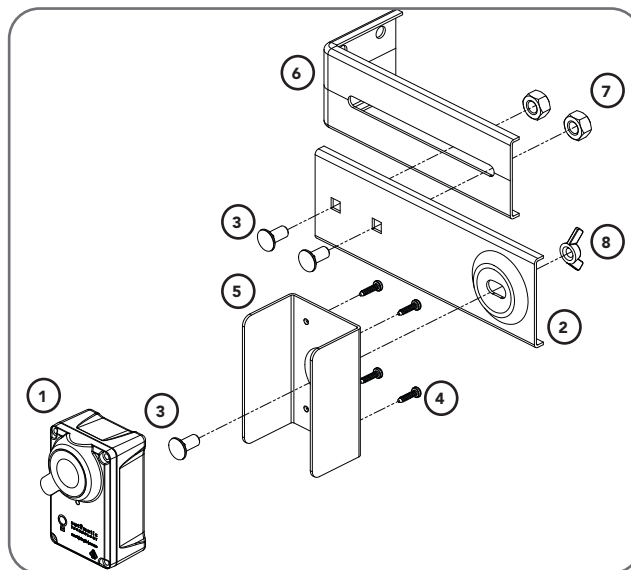
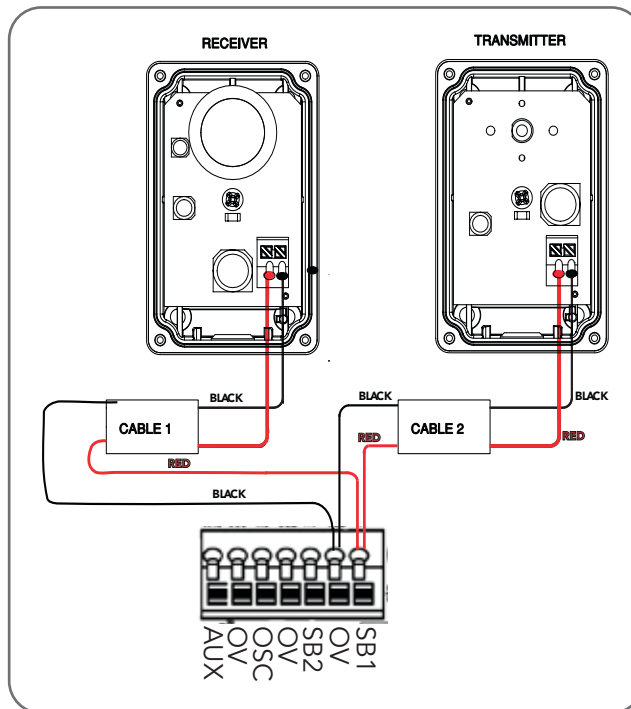

Fig.6.4.1
Fig.6.4.2
- Place the round screw (3) through the Bracket (5). Attach the Safety Beam Transmitter (TX) using four (4) M3 x 5 Taptite screws (4) (Fig. 6.4.1).
- Connect the mounting bracket (2) to the Bracket (5) using the wing nut (8) onto the round screw (3). Secure the adjustment bracket (6) to the mounting bracket (2) using two (2) screws (3) and nuts (7).
- Repeat steps (a) and (b) to assemble the Safety Beam Receiver (RX).
- Wire the PE Beams as per Wiring Diagram (Fig. 6.4.2).
WARNING: Connect the Safety Beam as per diagram in Fig 6.4.2. Tampering with the Safety Beam could result in serious personal injury and/or property damage and will void the warranty.
AVERTISSEMENT: Raccordez le faisceau de sécurité conformément au schéma Fig. 6.4.2. Saboter le faisceau de sécurité présente un risque de blessure corporelle grave et/ou de dommages matériels, et annule la garantie.